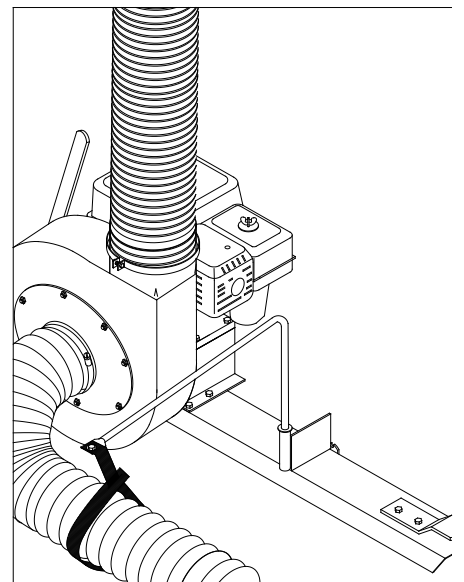

Fig. 12
19. Bolt Hose Support Strap (20) to Support Arm (35) with 5/16" x 1" HHC, flat washer and 5/16" whizlock nut. **Note:** Hang strap over side of support, not off end. **Fig.12**